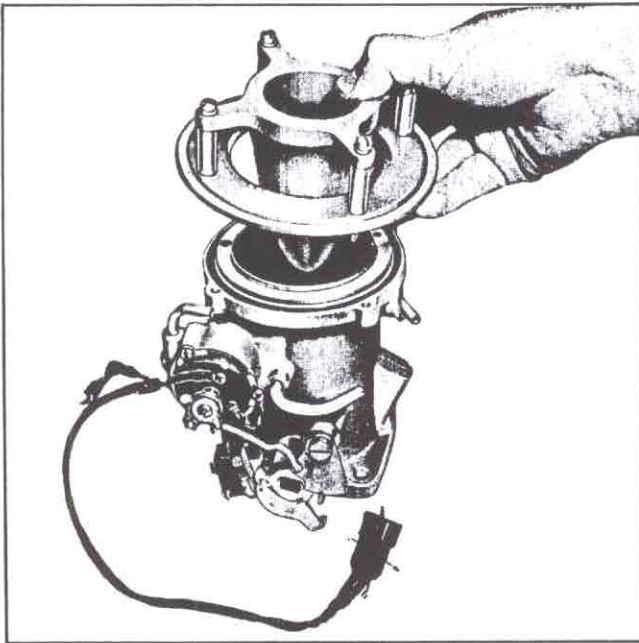

Fig. 127—Removing Diffuser Cone and Venturi Ring
2. Unscrew four diffuser cone attaching screws and remove diffuser cone, spacers, venturi ring, rubber gasket and attaching screws (fig. 127).